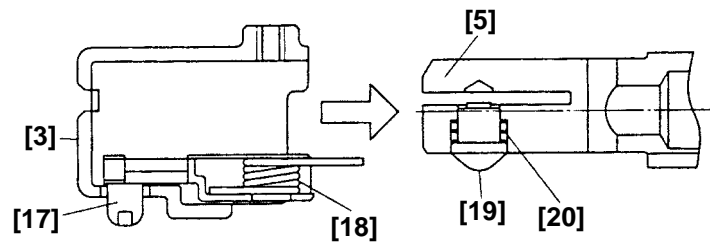

Fig. 12
(2) Mounting the saw blade mount (Figs. 12, 13 and 14)